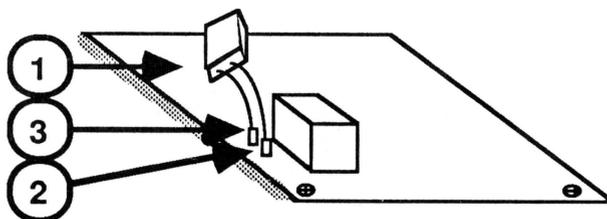

FIGURE 45
1. On the Rev. A main logic board service module, locate the female half of the male/female connector for the AC power supply cable (Figure 45, #1).
2. The female connector's two power wires (white and black) must be desoldered from the metal crimp connectors (Figure 45, #2) that hold them to the logic board. To do this, use the following procedure:
- b. Heat the top area (Figure 45, #3) of the metal crimp connector and use a solder sucker to remove the old solder.